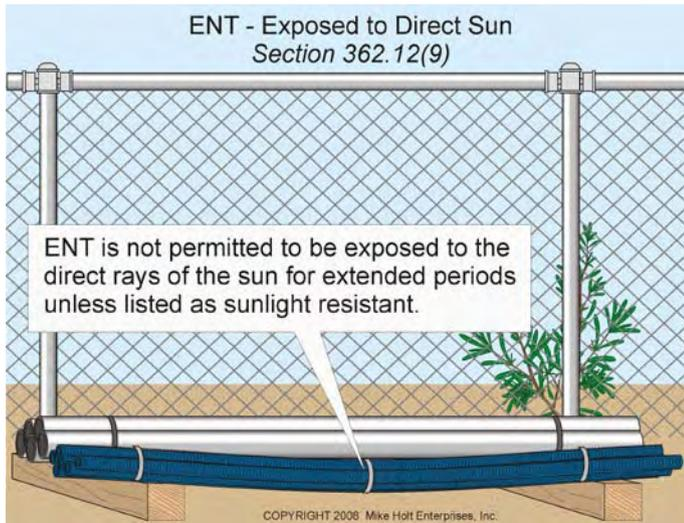

Figure 362-2
- (6) As a wiring method for systems over 600V.
- (7) Exposed in buildings over three floors, except as permitted by 362.10(2) and (5) Ex.
- (8) In assembly occupancies or theaters, except as permitted by 518.4 and 520.5.
- (9) Exposed to the direct rays of the sun for an extended period, unless listed as sunlight resistant.
Author’s Comment: Exposing electrical nonmetallic tubing exposed to the direct rays of the sun for an extended time may result in the product becoming brittle, unless it is listed to resist the effects of ultraviolet (UV) radiation. **Figure 362-2**
- (10) Where subject to physical damage.